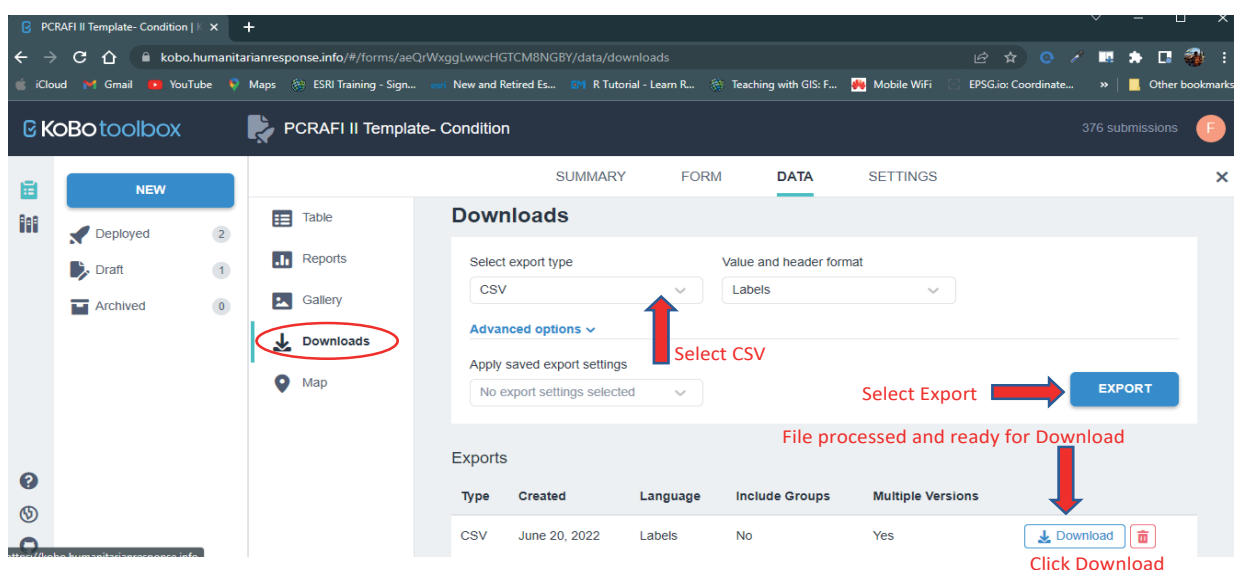

Figure 81: Downloads options to choose from
2. Once on the “Download” page, select export type and value and header format. “Advanced options” is also available if user would like to select certain templates/questions to download/export and also determine the types of columns the data is to be downloaded/exported in. (Figure 81)
3. Click on the “EXPORT” tab to begin exporting of data. Once exporting is complete, click on the “Download” tab. (Figure 81) Please note that any export stuck in the “Pending” state for longer than an hour will likely never succeed; if you encounter such an export, please feel free to delete it and create a new export.